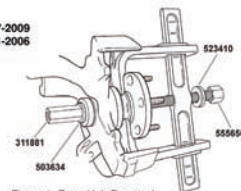

Figure 1. Front Hub Removal
1. Assemble the tool components as shown in Figure 1.